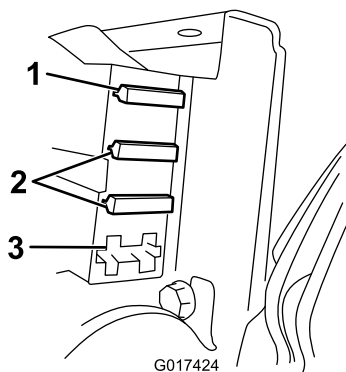

Figure 42
3. Check the fuses in the fuse block (Figure 42).
- If any fuse is blown, replace them with a fuse of the appropriate voltage and amperage (Figure 42).